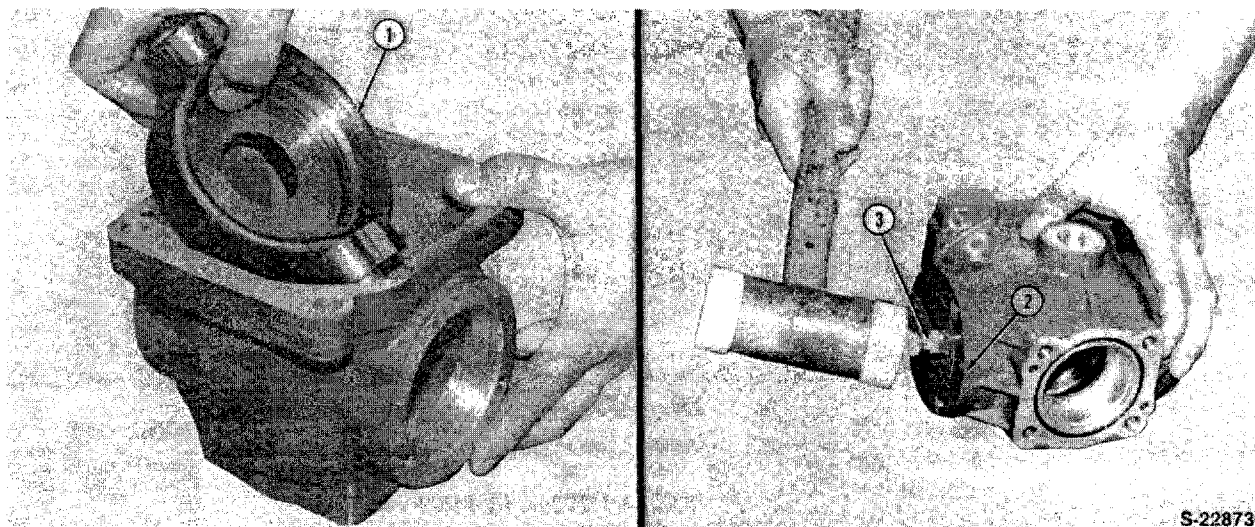

Figure 53
1. Scribe alignment marks on the swash plate cover. Remove the cover screws from each side, Figure 53.
4. Remove the variable swash plate, Figure 53.